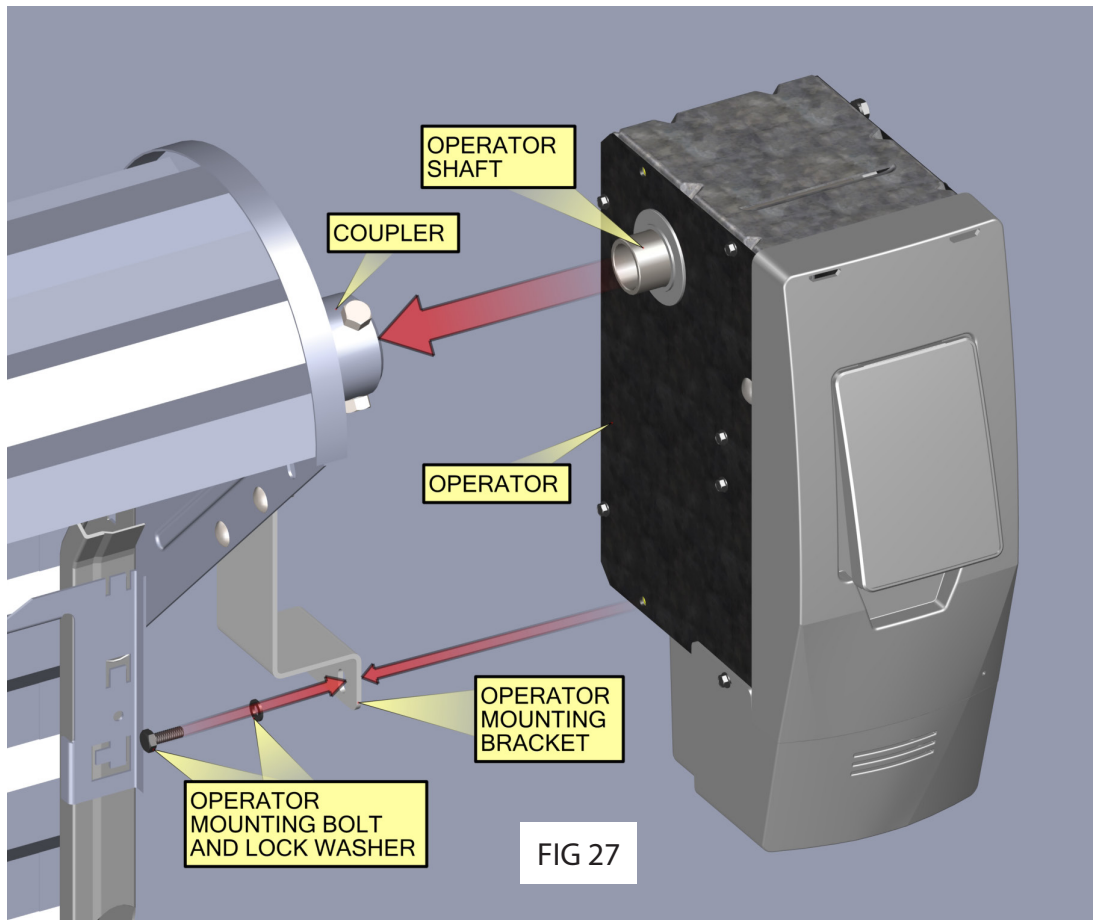

FIG 27
- Lift the Operator using appropriate lifting equipment and align the operator shaft with the coupler. Insert the operator shaft into the coupler ensuring that the operator side plate bearing race is flush up against the coupler. See FIG 27 and FIG 28.
- Once the Operator is in position and aligned, attach the operator to the bracket with the previously removed bolts. See FIG 27.